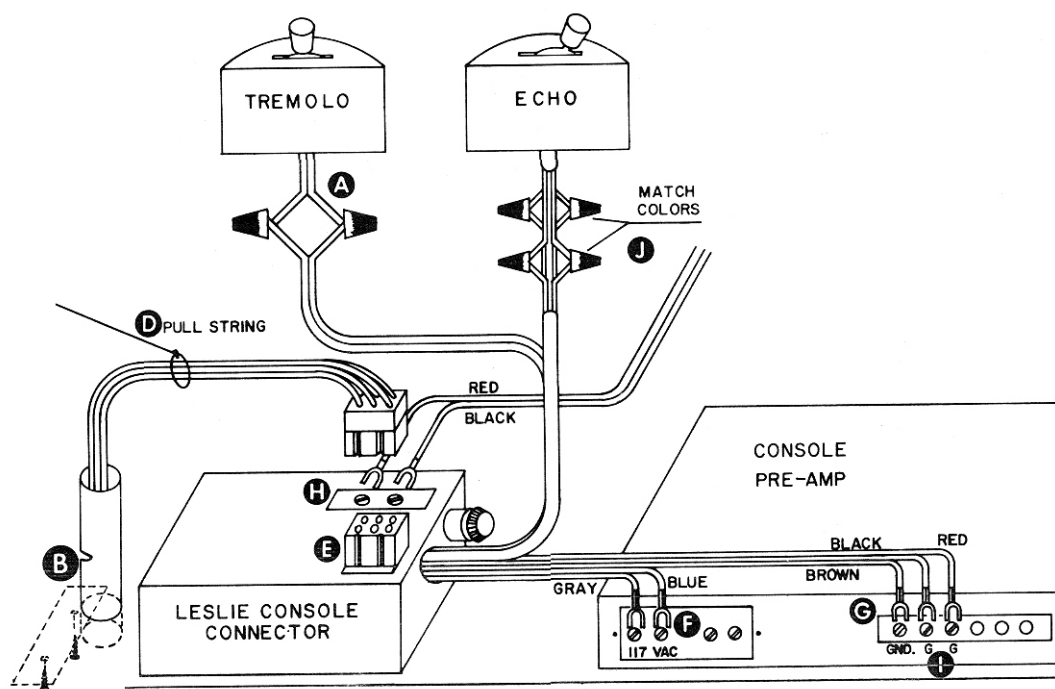
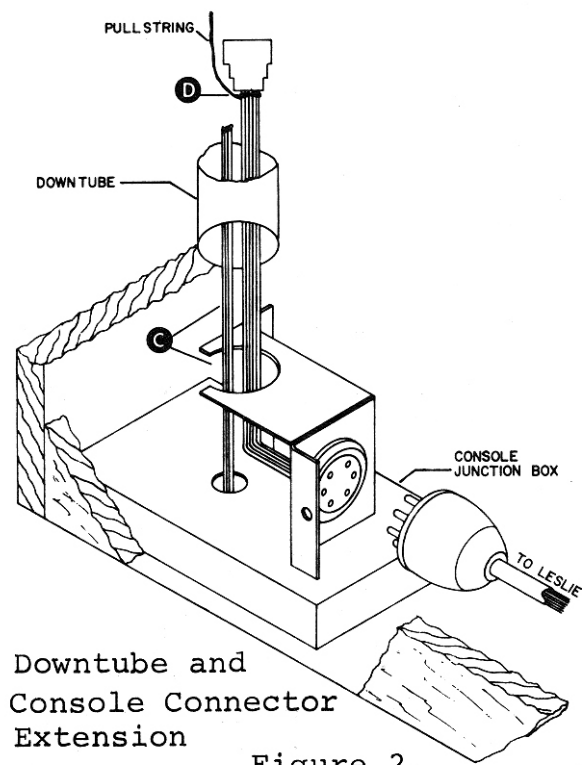

Figure 1. Interconnections
Figure 2.
4. Attach the two tremolo control wires to the AC-type wires on the console connector, using wire nuts. (A, figure 1)
6. Locate the down tube atop the organ junction box. (B) Remove the screws and locking clamp; slide the tube up about three inches.
7. Position the console connector extension below the down tube. Guide the organ wires which pass through the down tube into the hole in the extension chassis.(C, figure 2)
8. Drop a pull string through the down tube and tie it to the extension plug. Pull the plug and cable up through the tube. (D)
9. Connect the plug to the EXTENSION CABLE socket on the console connector. (E, figure 1)
10. Fit the down tube into the extension chassis. Then mount the chassis on the organ, using the bronzed wood screws provided. (figure 2)
12. Connect the blue and gray console connector wires to the 117V AC terminals behind the protective cover on the organ pre-amplifier. (F, figure 1)
13. Connect the brown console connector wire to the GND terminal on the organ pre-amplifier. (G)